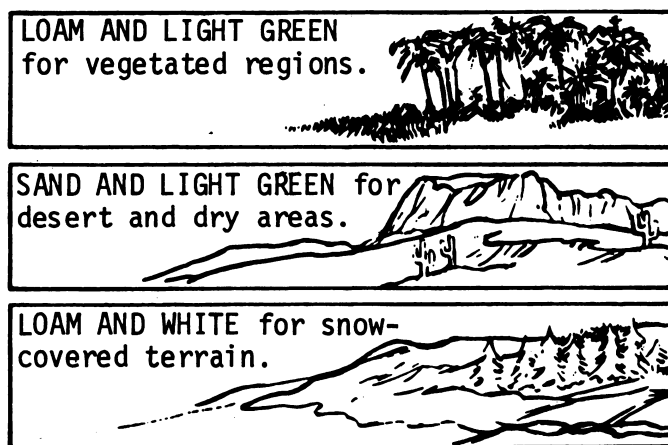

Figure 1
1. Guide for Skin Camouflage (fig. 1). Exposed skin reflects light and attracts the enemy's attention. Even very dark skin will reflect light because of its natural oil. Camouflage face paint sticks are issued in three standard two-tone sticks as follows: